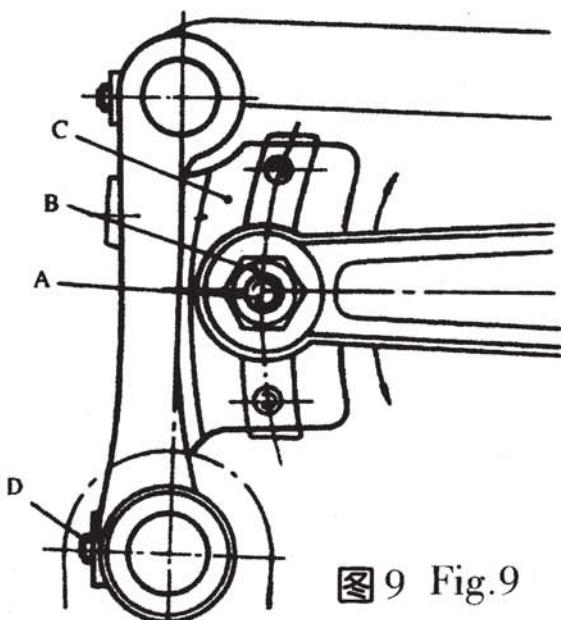

图9 Fig.9
送料牙在针板牙槽内的两侧面间隙不对称时，拧松牙架座(图9，C)两只螺钉(D)，左右移动牙架座至要求位置后再拧紧螺钉(D)。
If feed dog are not in the center in the throat plate slots, Loosen screws rear in the feed locker (C, Fig. 9), move the feed locker right or left as required. Then retighten screws(D).
针距长短的调节，是通过牙架座（图9，C）扇形槽中的针距调节螺钉（A）的上下移动来实现的。下降螺钉（A）使针距加大，升高则缩短针距。调节时拧松螺母（B）、上下移动螺钉（A）至需要的针距后再固紧螺母（B）。（自动型式的机器需卸下罩壳时再调节）
The length of the stitch can be adjusted by raising or lowering the stud(A) in the segment slot of the feed locker (C, Fig. 9). Lowering the stud will shorten the stitch. After loosening nut(B), Stud(A) can be moved accordingly. When the desired stitch length is obtained, Retighten nut(B). (For automatic style machines the cloth plate should be removed to adjust)